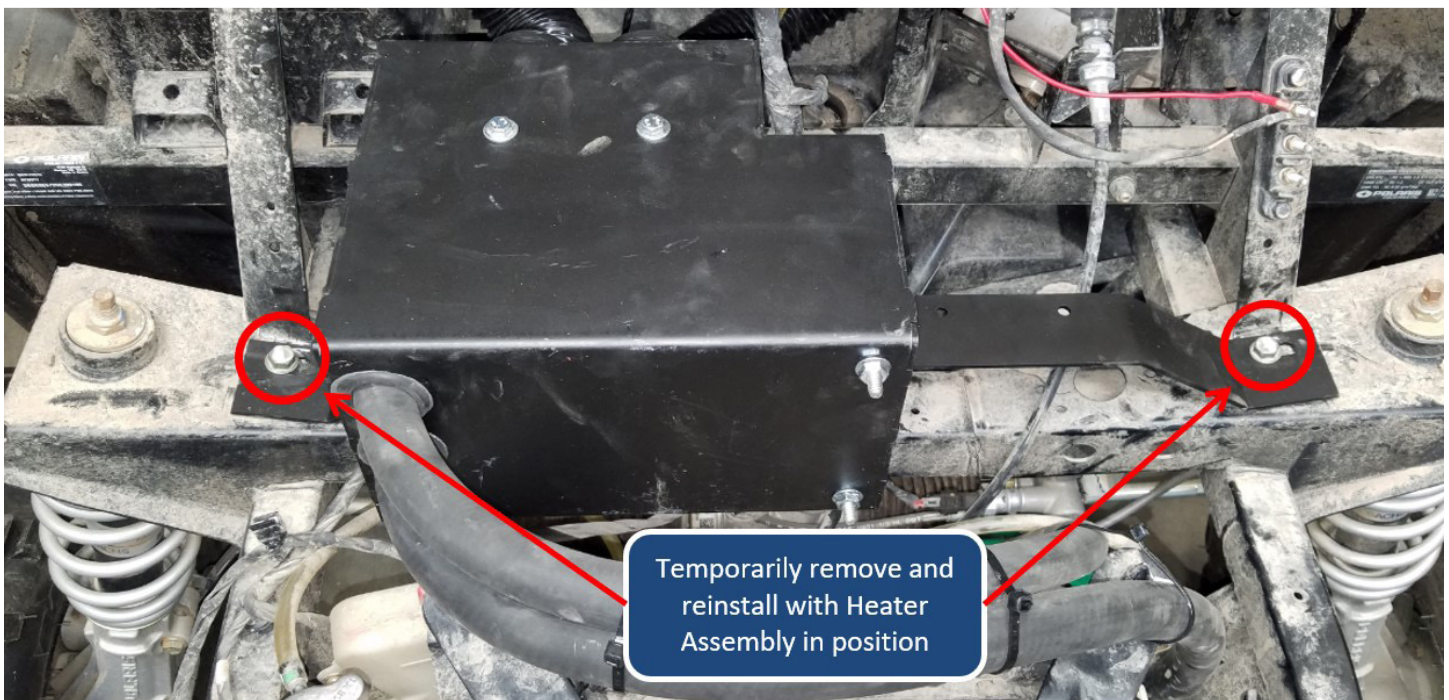

FIGURE 10
26. Remove the two bolts shown in **FIGURE 10** and position the heater box assembly over the bolt holes. Reinstall the frame bolts.